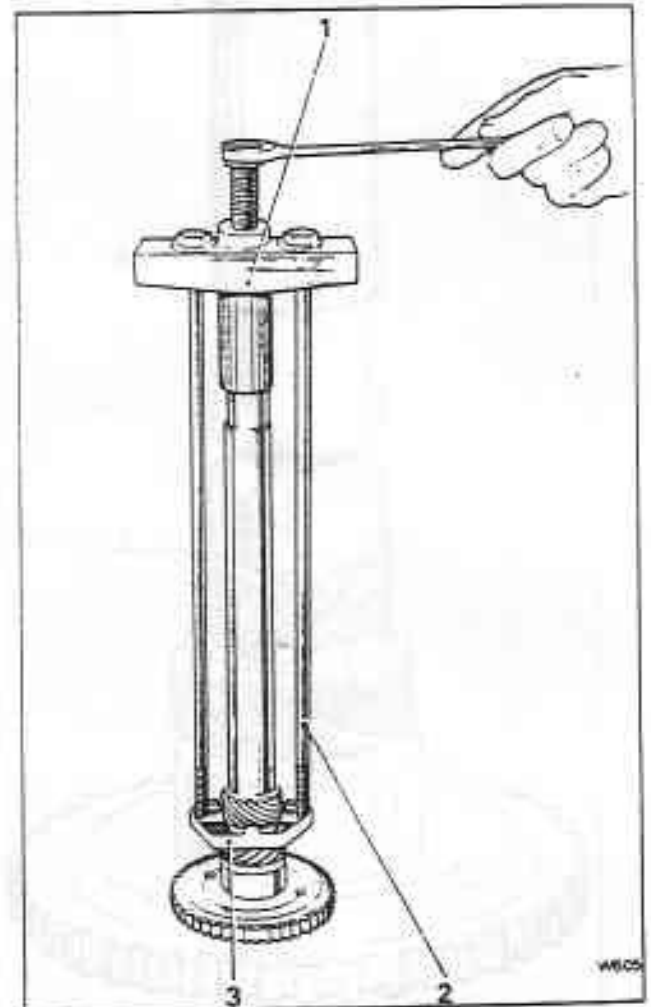

**Fig. T19-9 Removing a nylon speedometer drive gear**
1. If a **nylon gear** is fitted to the shaft, depress the retaining clip and slide the gear off the output shaft (see fig. T19-9).